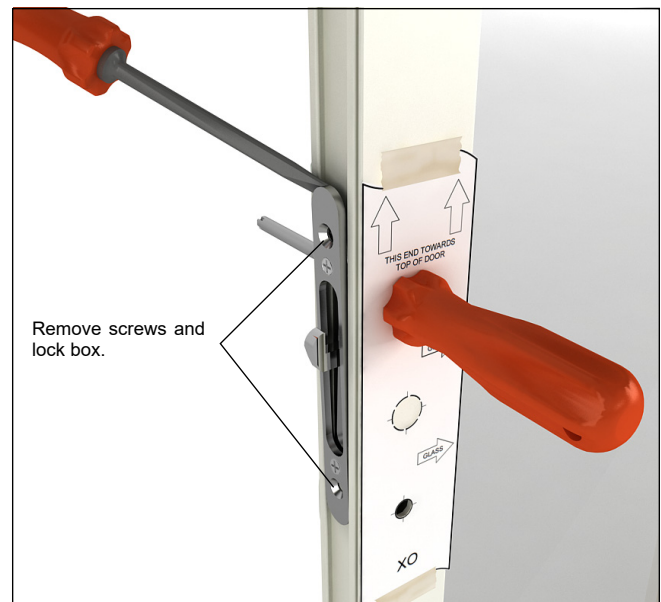

Figure 4
5. Remove the top and bottom Phillips screws from the lock box and pry it loose with another flat screwdriver. See figure 4.